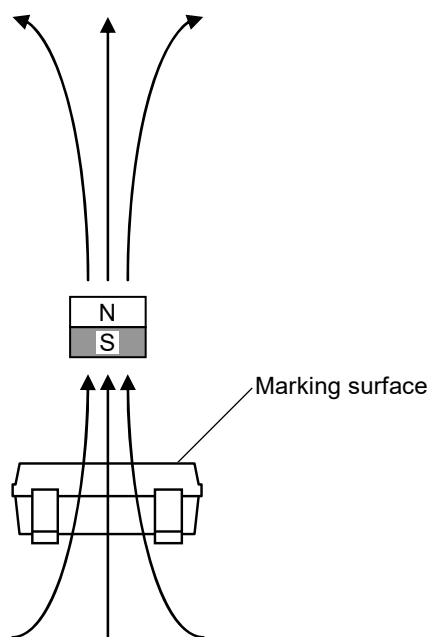
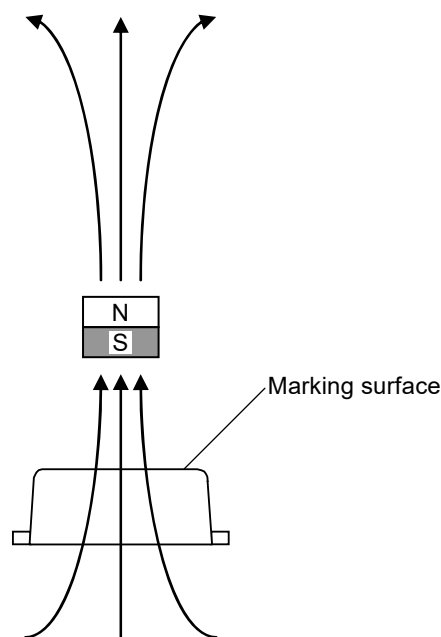

Figure 11
Figure 12
**Figure 11** and **Figure 12** show the direction in which magnetic flux is being applied.